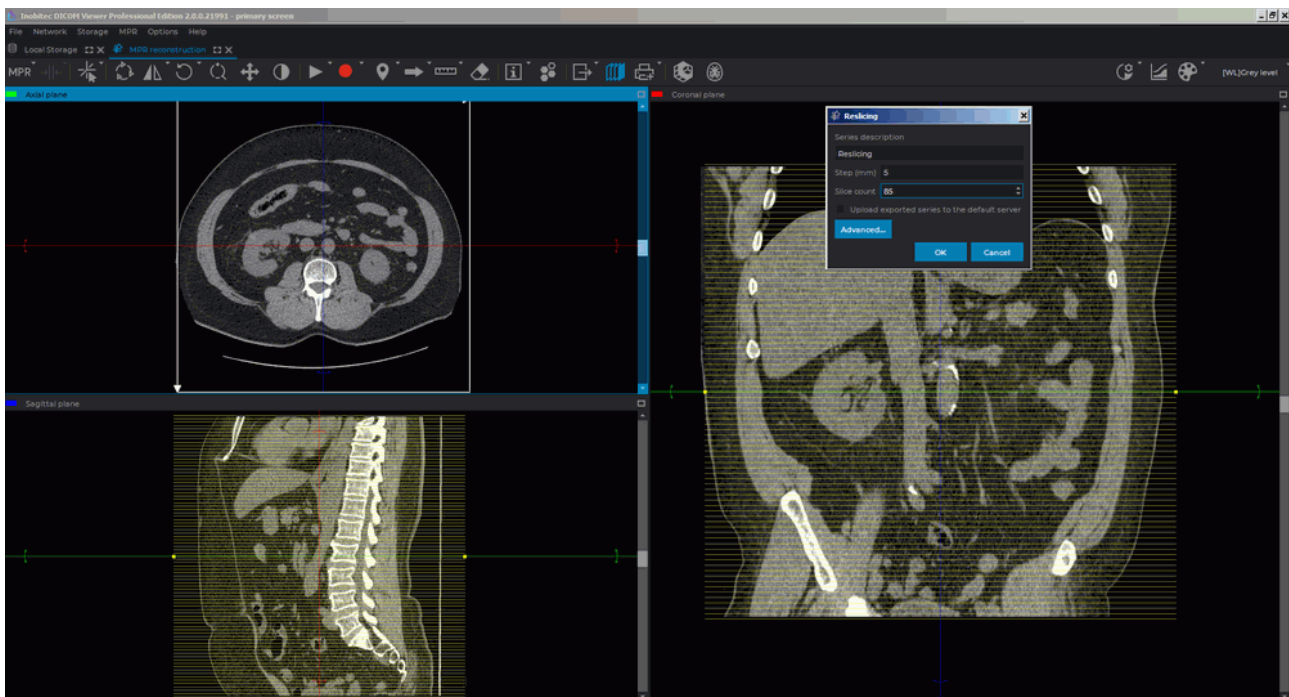

Figure 5.24: Reslice
2. Open the image export window by clicking on the **Reslice**  button. The window will look as shown in Fig. 5.24.